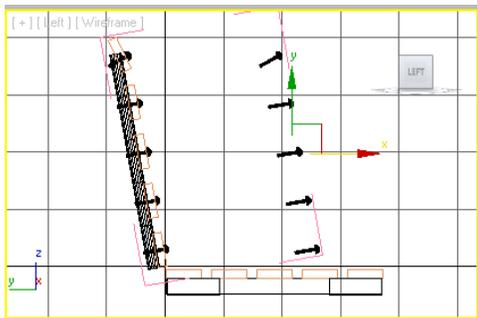

**Figure 2-80** The right side rivets selected in the **Select From Scene** dialog box
4. In the **Select From Scene** dialog box, select the *right side rivets* and choose the **OK** button, refer to Figure 2-80.